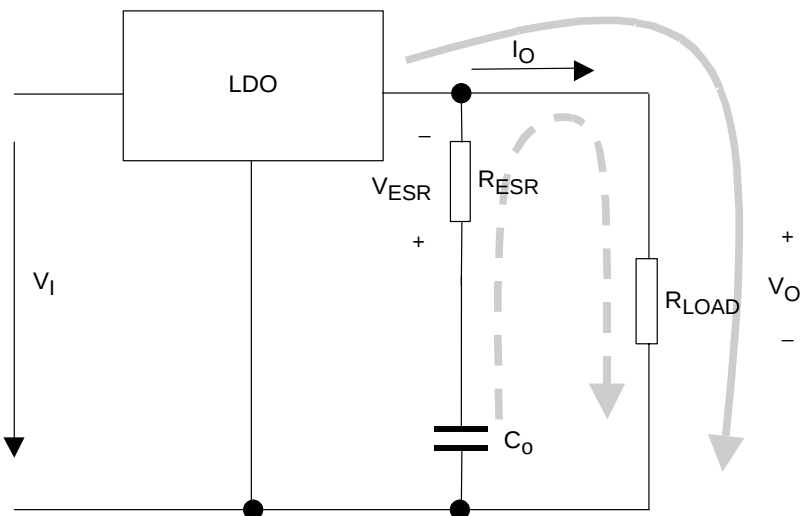
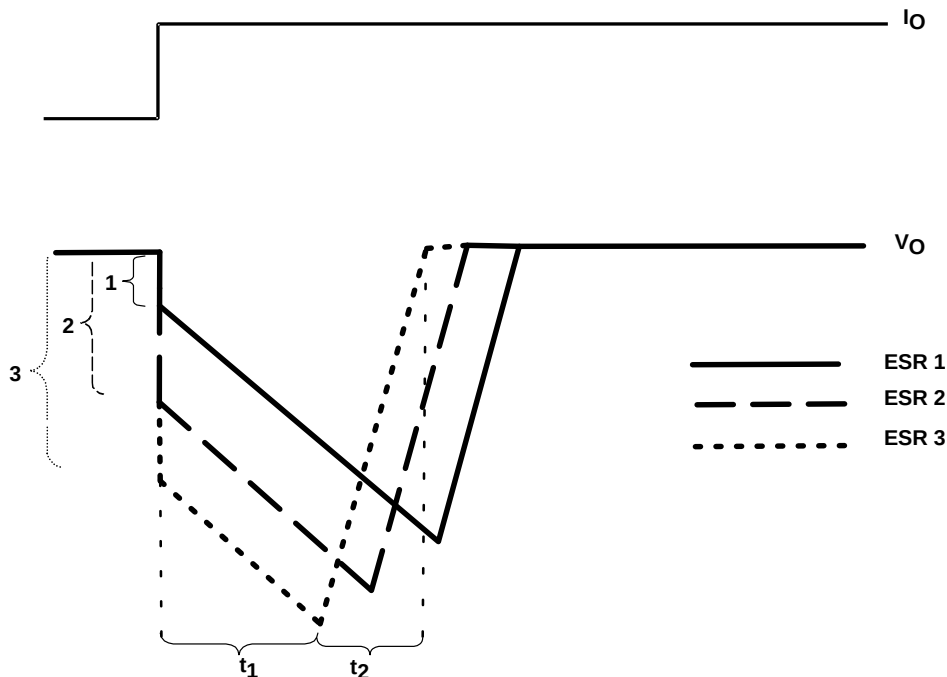

Figure 22. – LDO Output Stage With Parasitic Resistances ESR
Figure 23. – Correlation of Different ESRs and Their Influence to the Regulation of V_O at a Load Step From Low-to-High Output Current
Figure 22 shows the output capacitor and its parasitic impedances in a typical LDO output stage.
- The LDO is not able to supply the sudden current need due to its response time (t_1 in Figure 23). Therefore, capacitor C_O provides the current for the new load condition (dashed arrow). C_O now acts like a battery with an internal resistance, ESR. Depending on the current demand at the output, a voltage drop will occur at R_{ESR} . This voltage is shown as V_{ESR} in Figure 22.
- When C_O is conducting current to the load, initial voltage at the load will be $V_O = V(C_O) - V_{ESR}$. Due to the discharge of C_O , the output voltage V_O will drop continuously until the response time t_1 of the LDO is reached and the LDO will resume supplying the load. From this point, the output voltage starts rising again until it reaches the regulated voltage. This period is shown as t_2 in Figure 23.